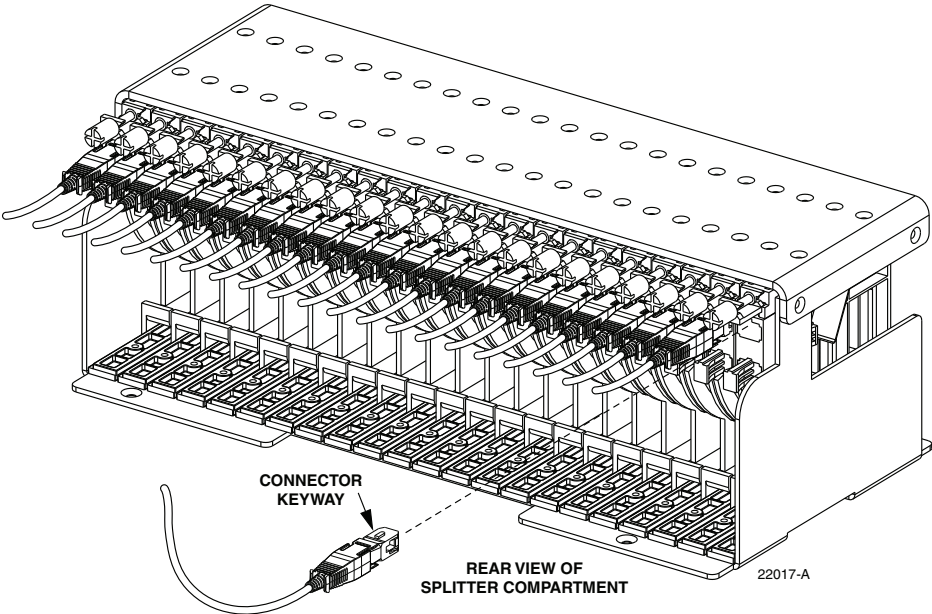

Figure 78. Feeder Cable Connector
9. Insert the feeder fiber connector into the appropriate bulkhead adapter (remove dust cap from adapter) at the rear of the splitter compartment as shown in Figure 78.